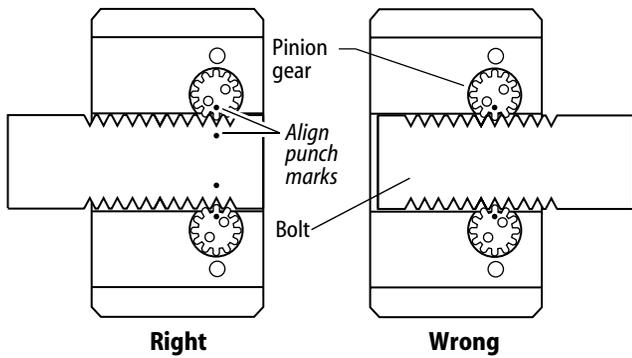

Figure 5 — Re-meshing the bolt and pinion gears
- 1 If the bolt has been removed, re-mesh the bolt and pinion gears on the back of the lock housing. *When re-meshing the gears, make sure to align the punch marks on the bolt and the pinion gears.* See Figure 5.